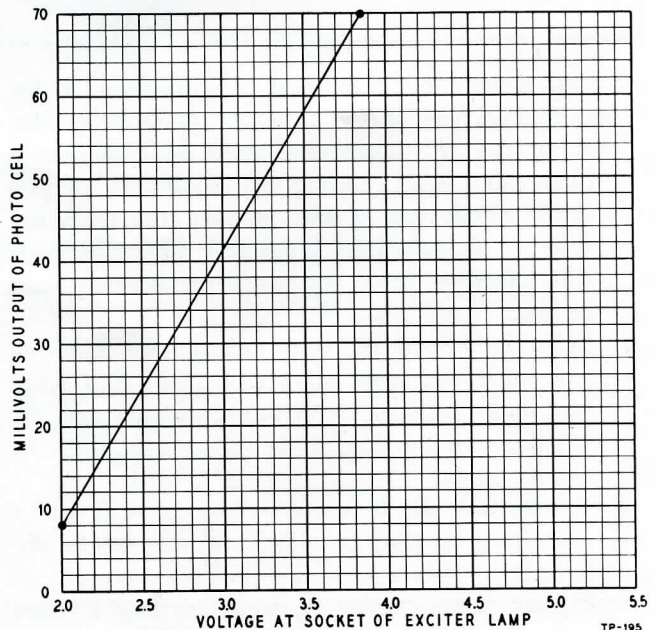

FIGURE 38. PHOTO-CELL OUTPUT CHART
8. The following test procedure is a method for testing the sensitivity of the photo cell in the pick-up head. The meter employed to compile the chart, figure 38, is the Philco Circuit Tester, Model 020, which is a 5000 ohms-per-volt meter.